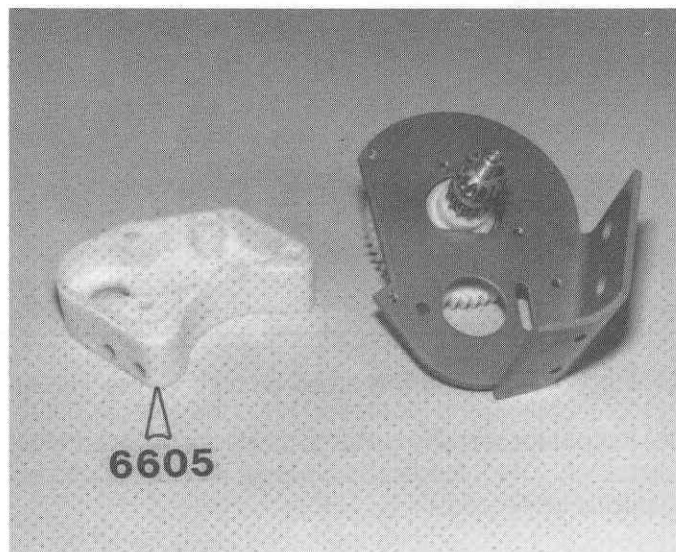

Fig. 82
□ **Fig. 82** Make sure the bearing adaptor is properly seated in the motor mount. Take out the #6605 transmission housing, as shown.